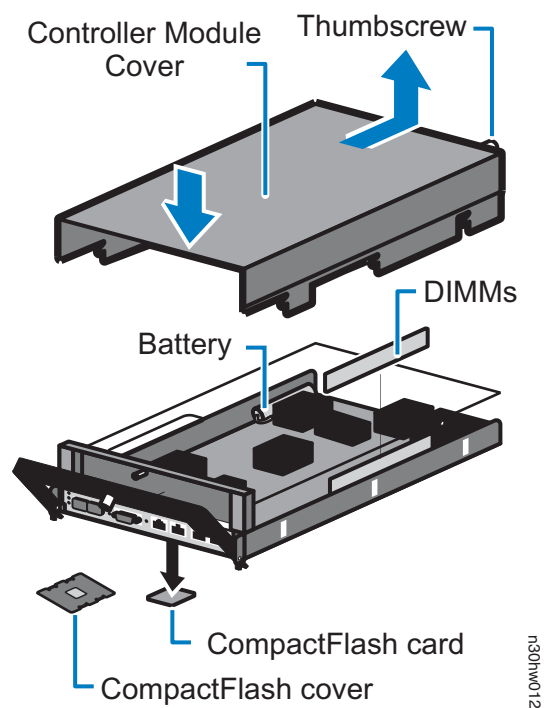
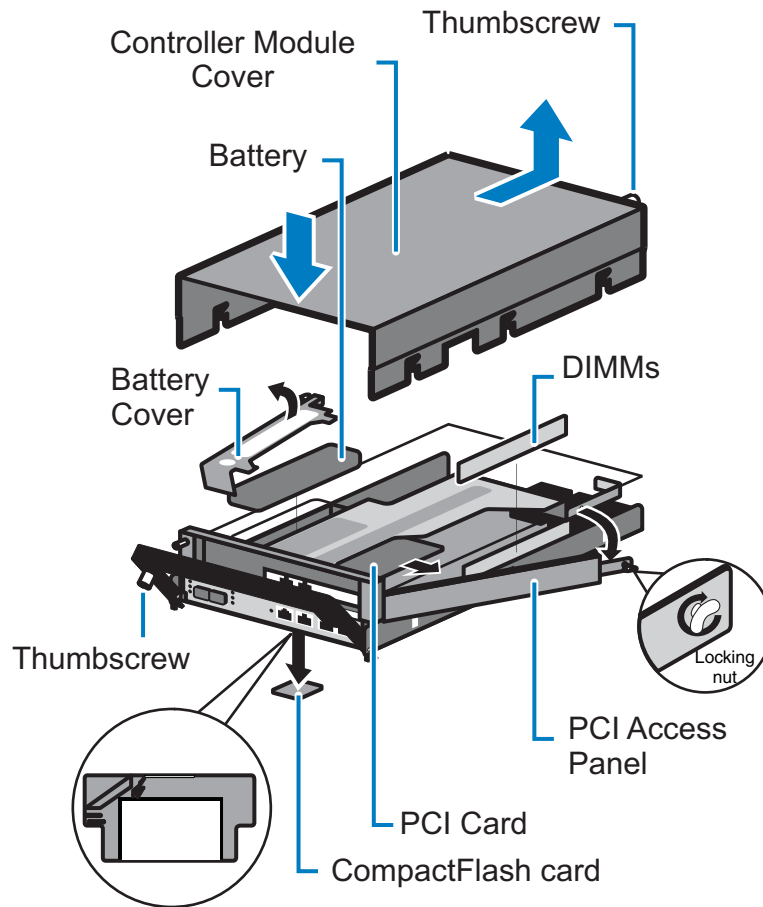

Figure 18. Opening the controller module - N3300
Figure 19. Opening the controller module - N3600
7. Remove the controller module cover by completing the following substeps, using Figure 18 on page 37 or Figure 19 on page 38 for reference: